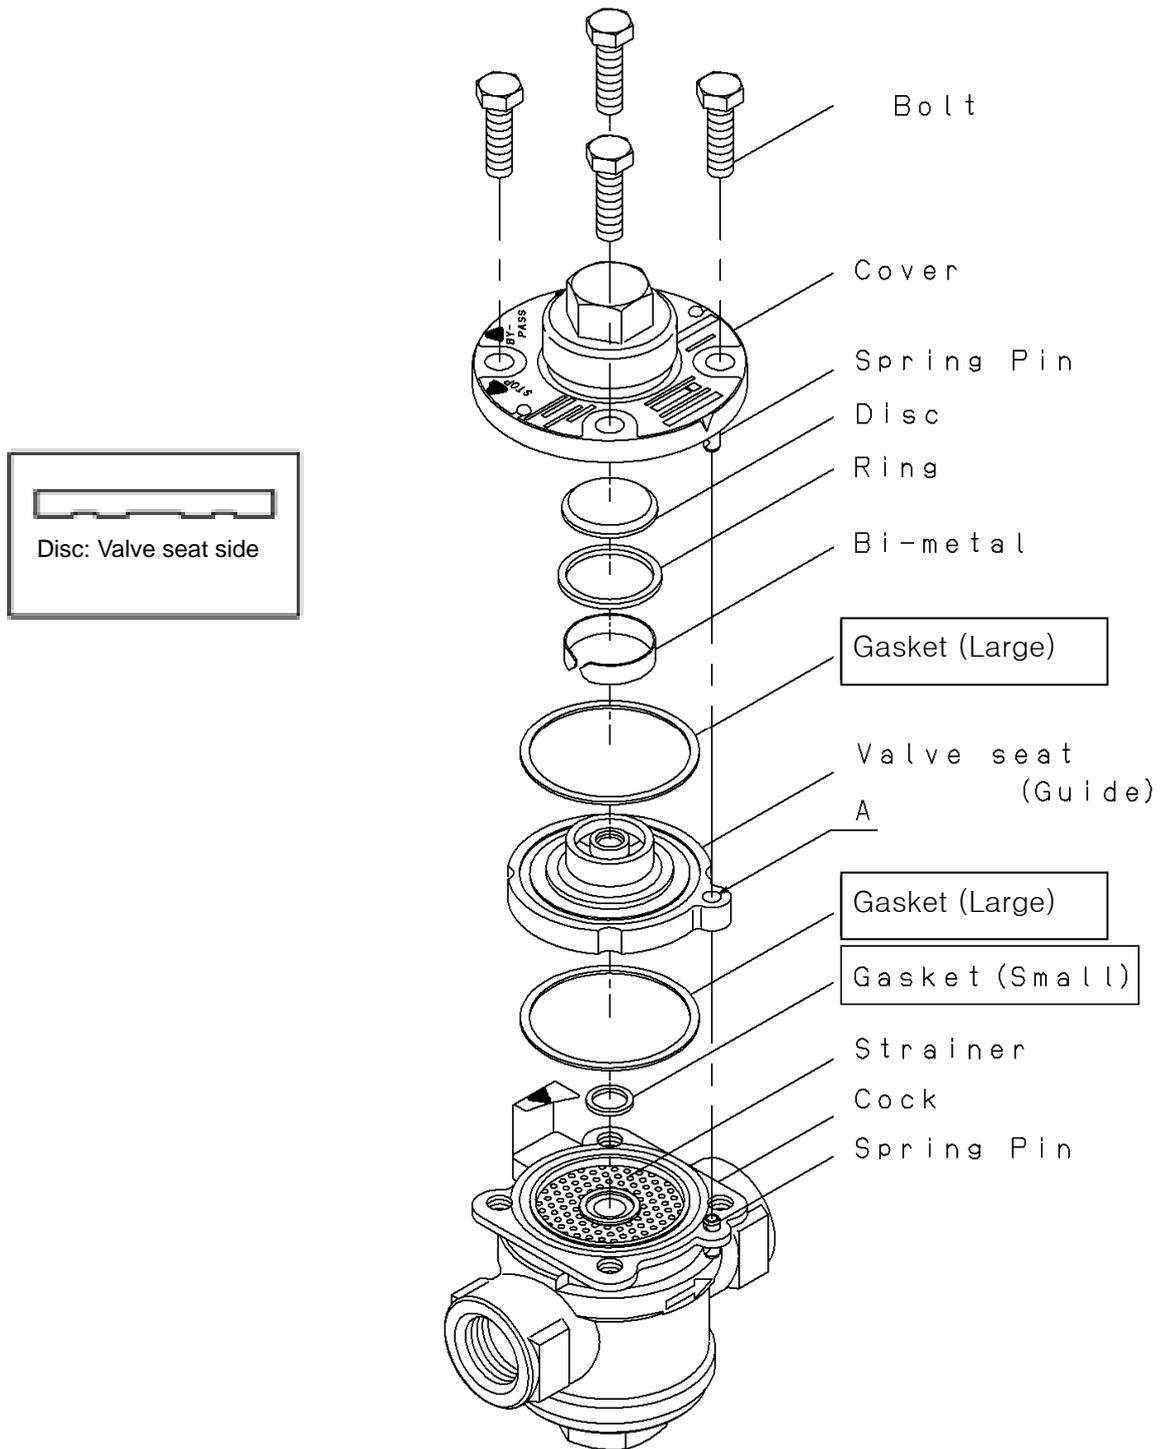

Fig.9
* Refer to Fig .9 for the part names mentioned above.
Follow the steps below with reference to Fig 9.
- (3) Disassemble the product into the parts as shown in Fig 9.
- (3) After attaching the other piece of gasket (large) into the groove on the valve seat, set the bi-metal, ring and disc on the valve seat in this order. Refer to Fig 9 to avoid setting the disc upside down.
- (4) Equip the valve seat with the cover.